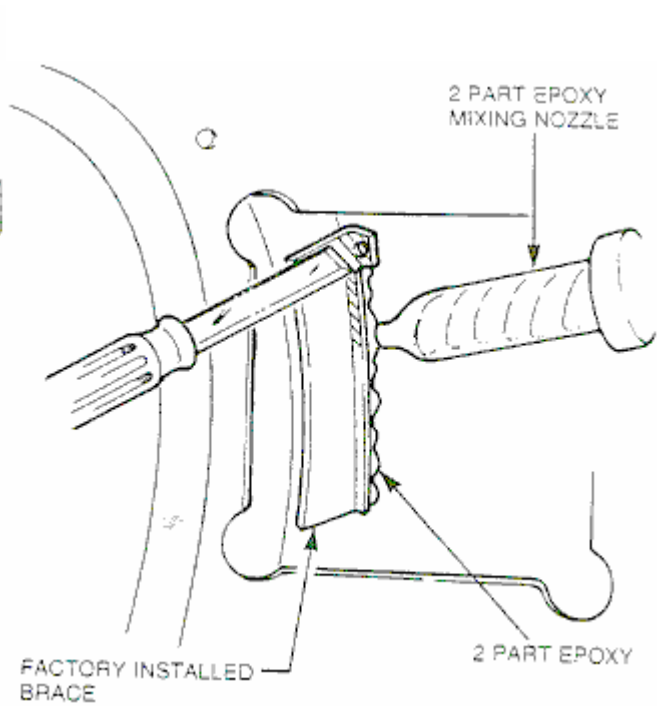

FIGURE 9
24. If the unit is equipped with a brace (refer to Figure 9), then pump the two-part epoxy between the brace, the outer sheet metal roof, and the sail panel. Use a blunt chisel and hammer to bend the forward standing flange on the brace as close to the outboard side of the roof and sail panels as possible, without contacting the roof and sail panels (refer to Figure 9).